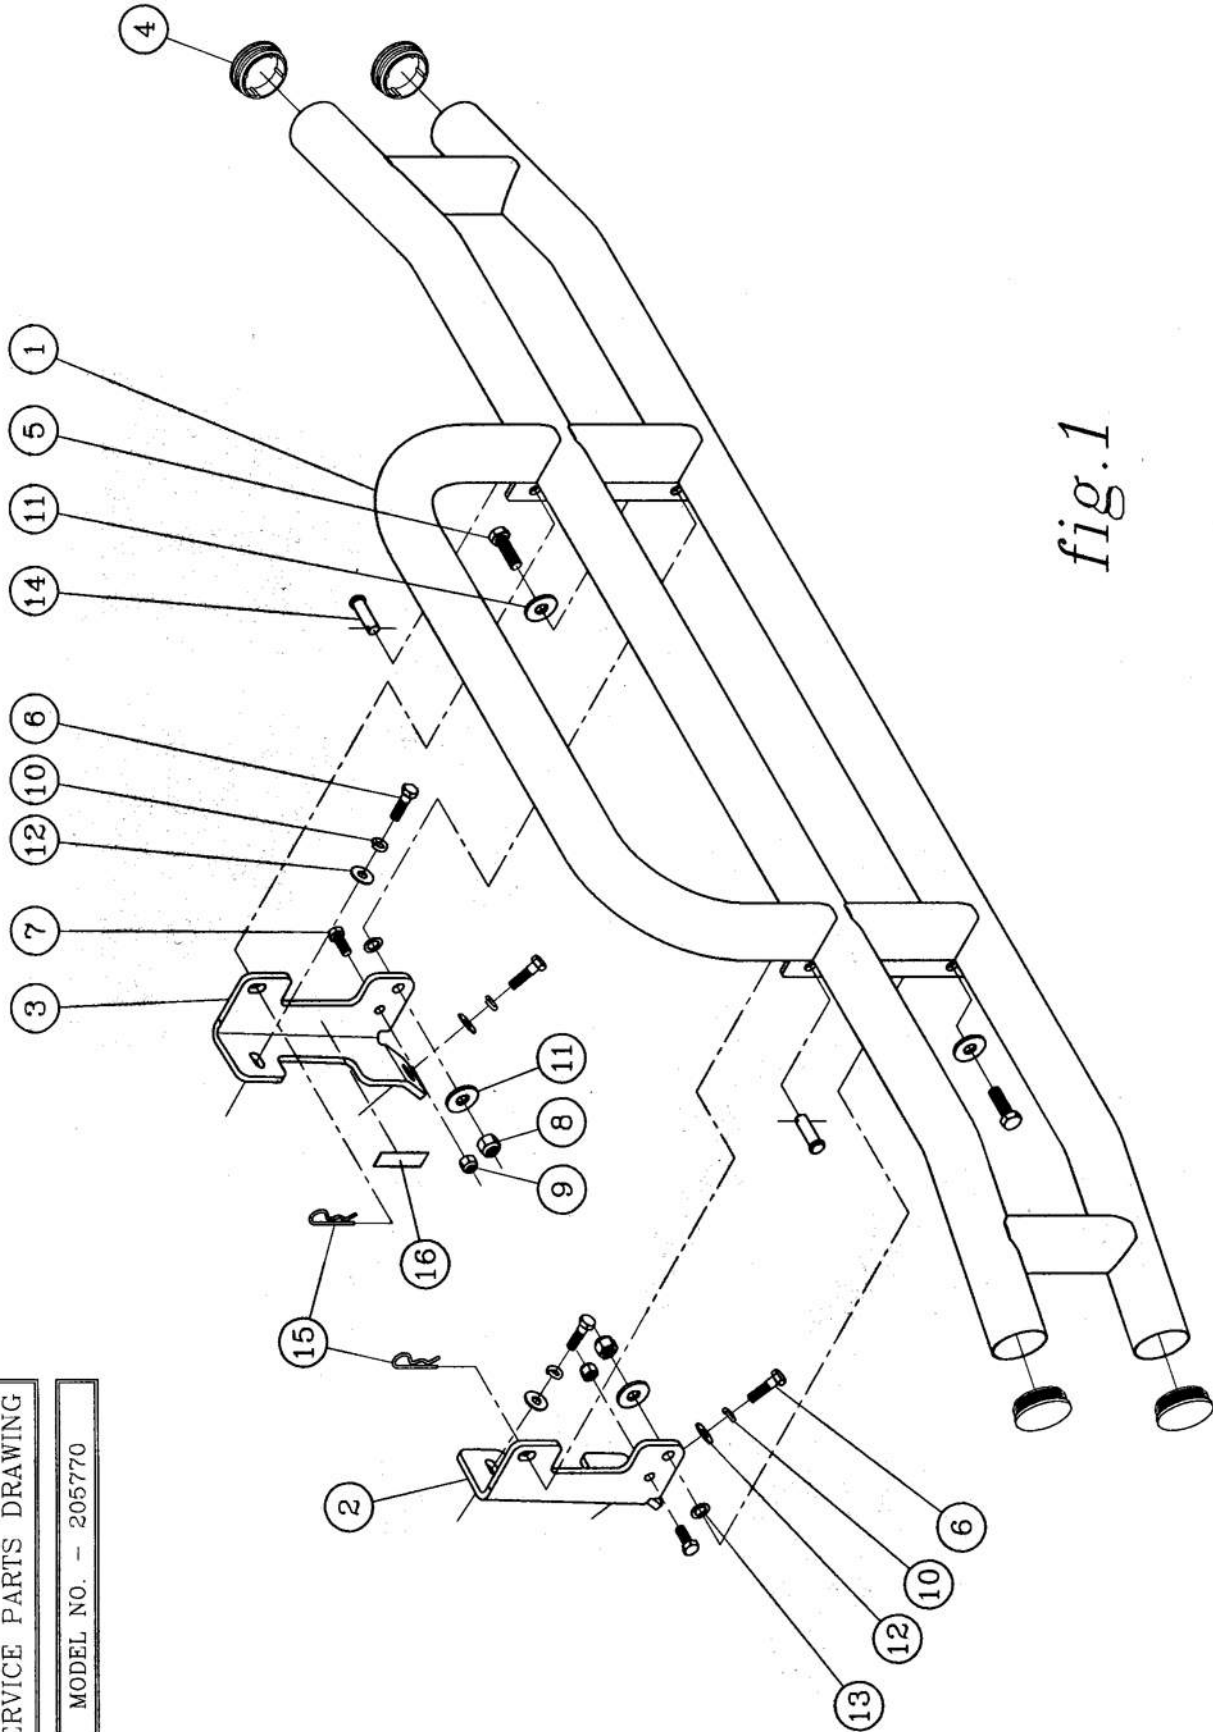

fig.1
3. INSTALL THE MOUNTING BRACKET (ITEM #2) OR (ITEM #3) FOR THAT SIDE, USING THE M12 X 1.75 X 40mm HEX HEAD SCREWS (ITEM #6), 7/16" FLAT WASHERS (ITEM #12), 1/2" LOCK WASHERS (ITEM #10), AS SHOWN IN FIG. 1. HAND TIGHTEN ONLY AT THIS TIME.